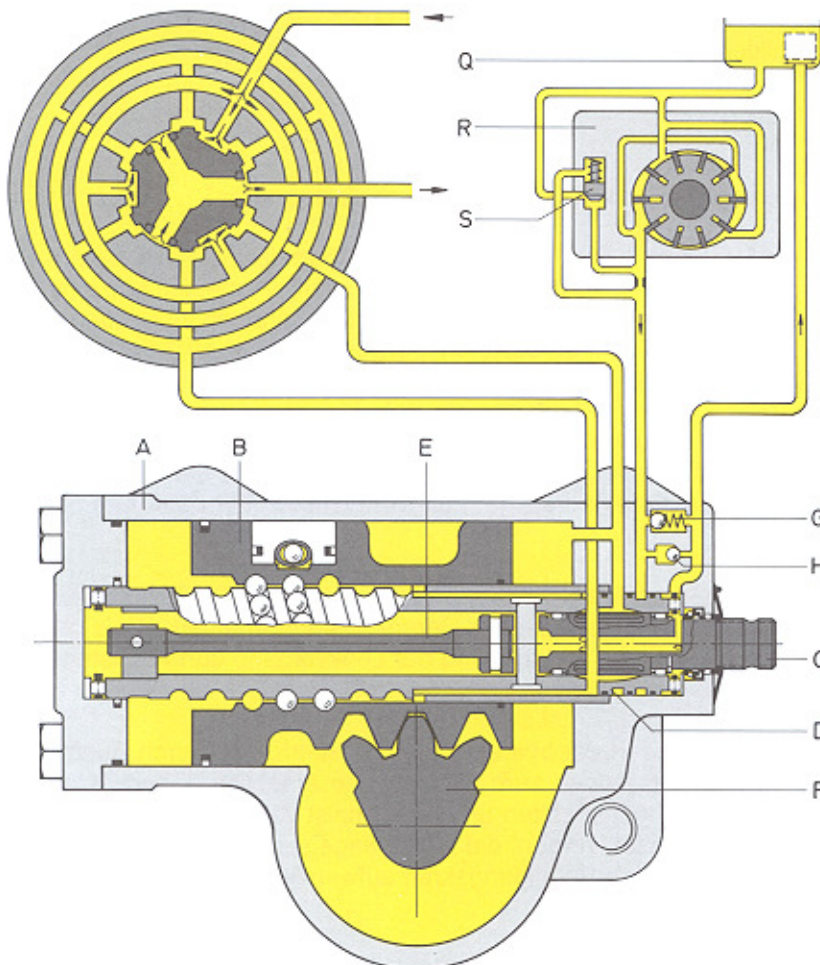

Fig. 1
The housing (A) - see **Fig. 1** - and the piston (B) have the function of a cylinder. The piston transforms the rotation of the steering input shaft (C) and of the worm (D) into an axial motion which it transmits to the sector shaft (F).
The 3 functional drawings to **Figs. 1 to 3** give a simplified representation of the steering valve and the oil flow. In addition, these figures give a cross-sectional view of the steering valve in order to schematically represent the connections from the steering valve to the cylinder chambers and the mode of operation of the valve.